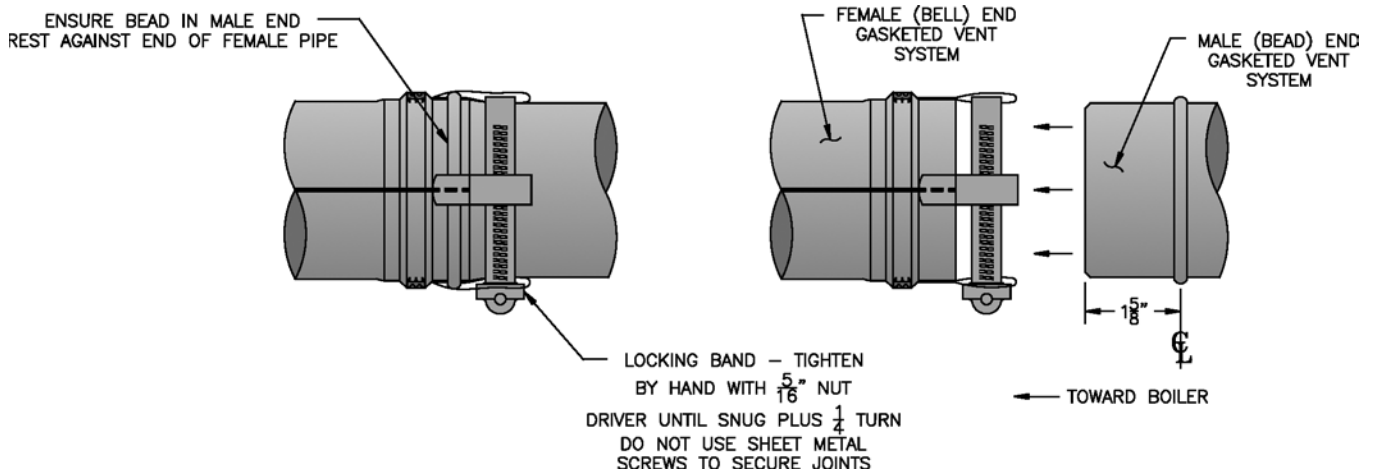

Figure 3: Burnham Gasketed Vent Joint Detail
1. Procedure for Joining Burnham Gasketed Vent Pipe and Fittings. See Figure 3.